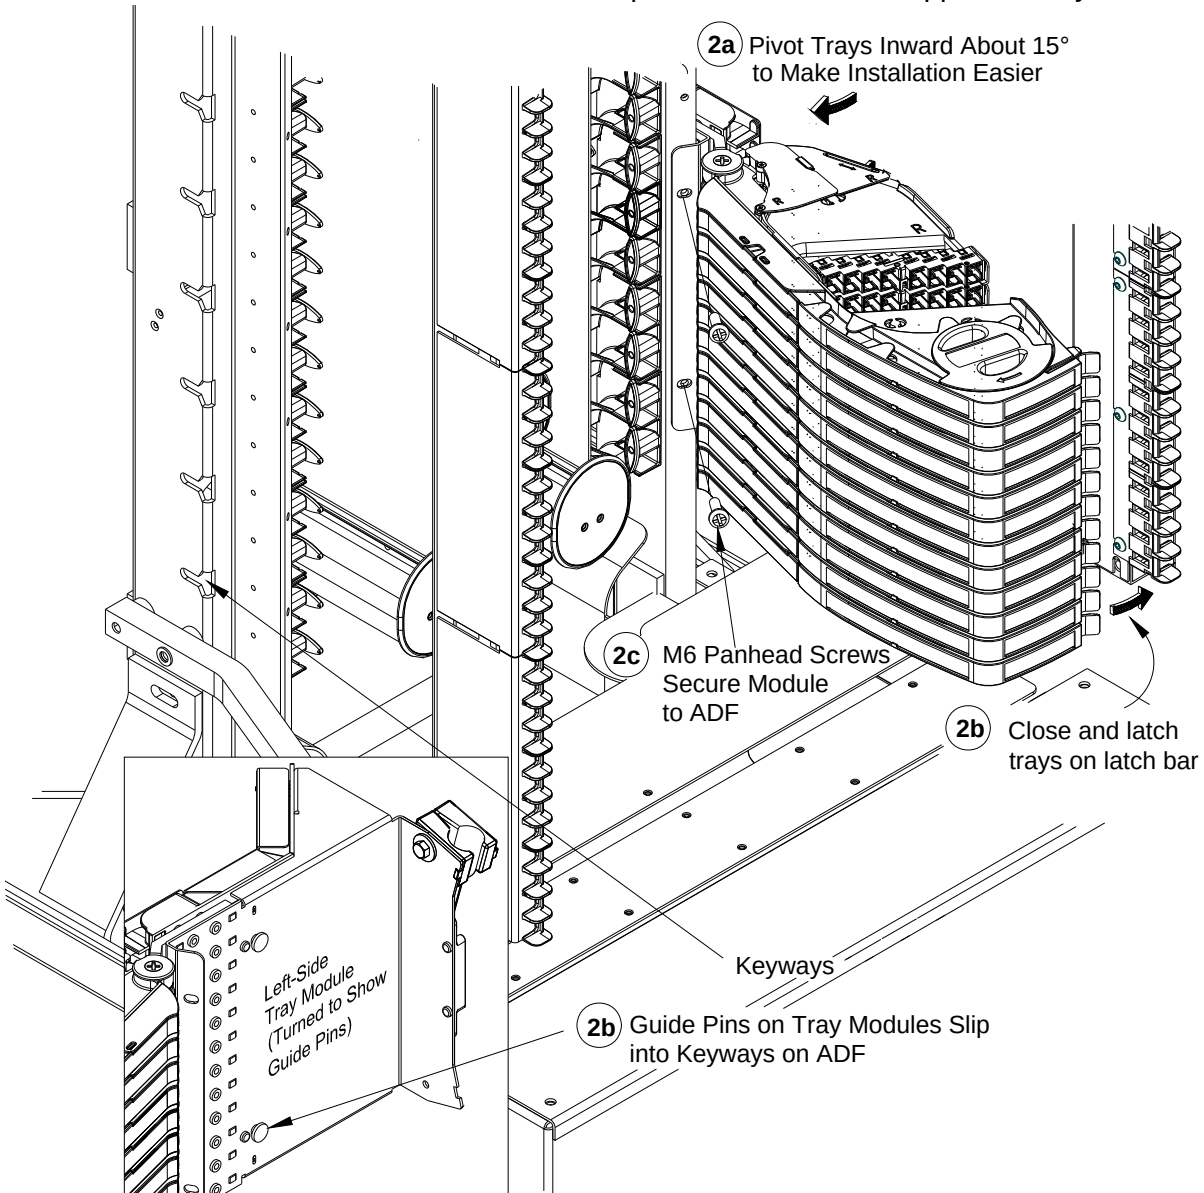

Figure 36 - Installing a Module on a Main ADF
2. Refer to Figure 36 on the following page, and proceed as follows: